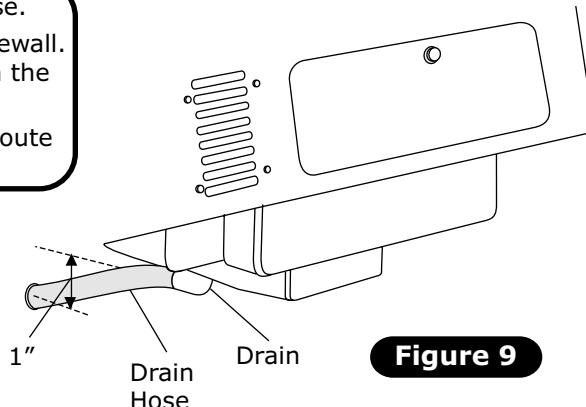

Figure 9
4. Lift evaporator unit up under the dashboard. Secure loosely to the firewall using a 1/4-20 x 1" hex bolt, (2) flat washers and a 1/4" nut with star washer (See Figure 9, below). **NOTE: To ensure proper drainage, it is very important that the evaporator is level, both left-right and fore-aft. Check for level on the flat portions of the case around the drain.**
2. In line with the drain, lightly make a mark on the firewall. Measure one inch down and drill a 5/8" hole through the firewall (See Figure 9, below).
3. Install drain hose to bottom of evaporator unit and route through firewall (See Figure 9, below).